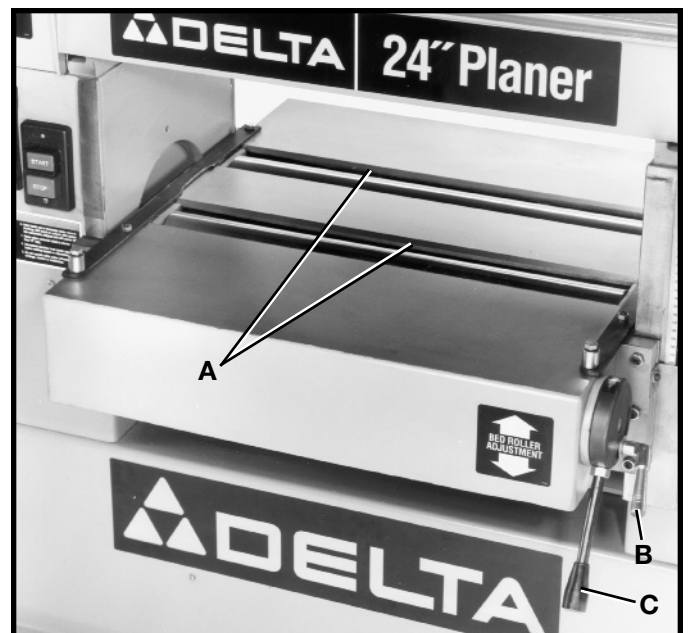

Fig. 21
Your planer is supplied with two table rollers (A) Fig. 21, which aid in feeding the stock by reducing friction between the stock and the table and rotate as the stock is fed through the planer.
1. To raise the table rollers, loosen locking lever (B) Fig. 21, and pull control lever (C) upward to the desired height setting.
2. To lower the table rollers, loosen locking lever (B) Fig. 21, and push control lever (C) downward to the desired height setting.
3. After adjusting height of the table rollers, tighten locking lever (B) Fig. 21.